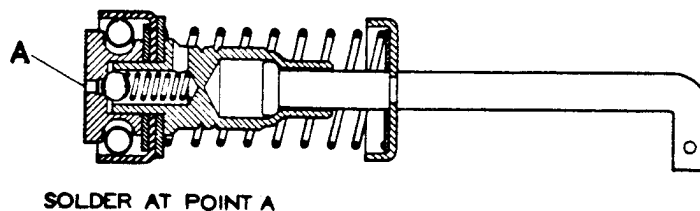

FIG. 1. ACCELERATOR PUMP PISTON - SHOWING BLEED HOLE.
8. Seal off with solder the inlet bleed passage as shown in Fig. 1.